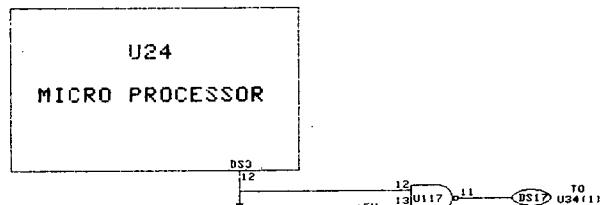

Figure C-7. Schematic 2 Changes (Change No. 15)
**Schematic 2 Changes.** Refer to Figure C-7 for the changes.